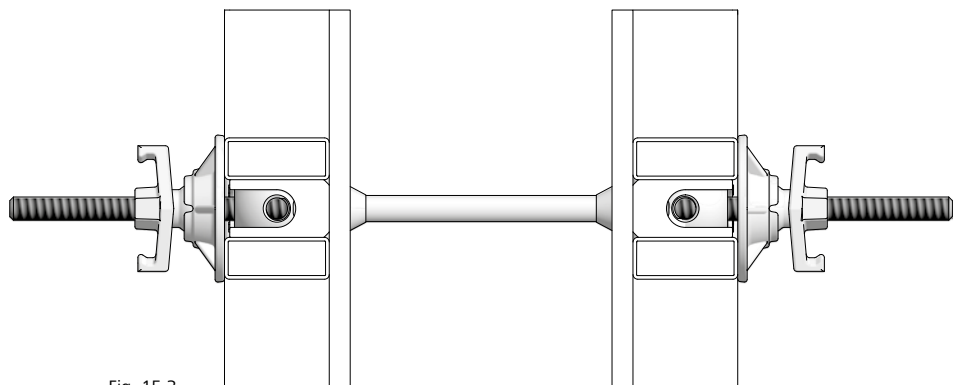

Fig. 15.3
- Two-sided tying with DW tie rod and plastic tube (Fig. 15.3)